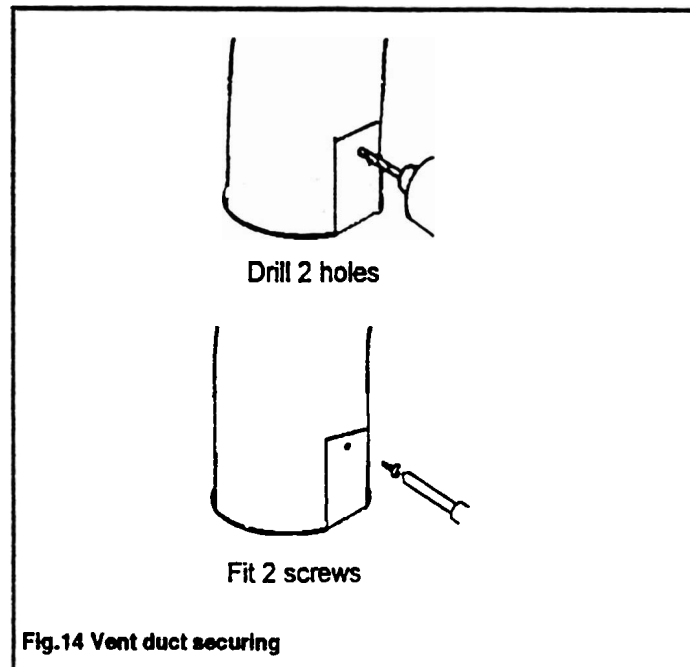

Fig.14 Vent duct securing
- 10.17** Place a piece of card, thick paper, etc. over the top of the appliance to protect it. Secure the elbow or extension at the appliance ducts by drilling and securing with two #6 tapping screws provided (Lift the decorative vent collar clear while working). See figure 14. Make sure that the drill does not penetrate the inner vent duct.